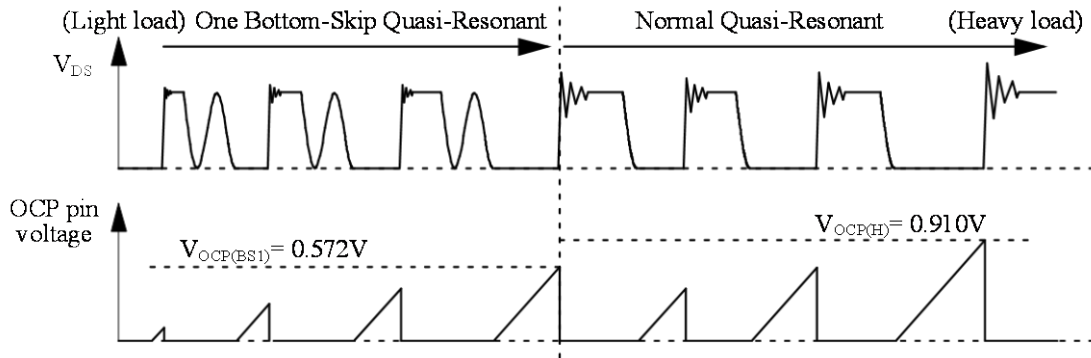
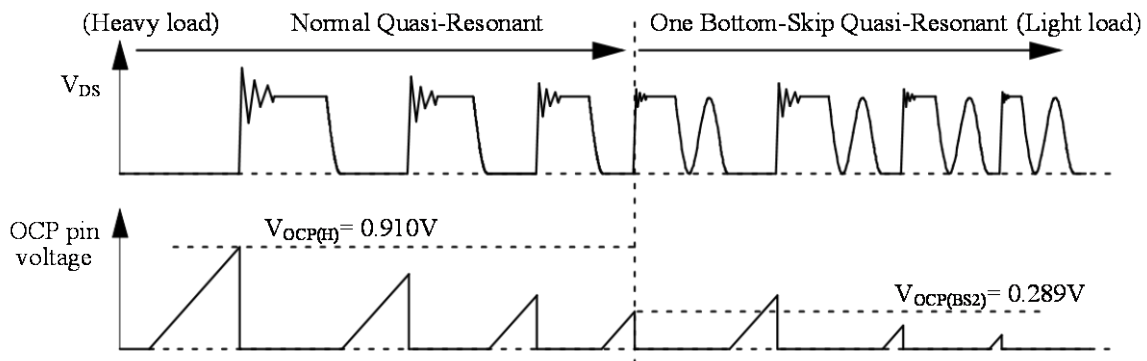

Figure 8-17. Operation State Transition Diagram from Light Load to Heavy Load Conditions
Figure 8-18. Operation State Transition Diagram from Heavy Load to Light Load Conditions
Figure 8-17 shows the operation state transition diagram of the output load from light load to heavy load. Figure 8-18 shows that from heavy load to light load. As these are state change diagrams without input compensation of OCP, the overcurrent detection threshold voltage shows just a $V_{OCP(H)} = 0.910V$.
- The mode is changed from one bottom-skip quasi-resonant operation to normal quasi-resonant operation (Figure 8-17), when load is increased from one bottom-skip operation, the MOSFET peak drain current value increases, the on-time widens, and thus the peak value of the OCP pin voltage increases. When the load is increased further and the OCP pin voltage increases to $V_{OCP(BS1)}$, the mode is changed to normal quasi-resonant operation.
- The mode is changed from normal quasi-resonant operation to one bottom-skip quasi-resonant operation (Figure 8-18), when load is reduced from normal quasi-resonant operation, the MOSFET peak drain current value decreases, the on-time shortens, and thus the peak value of the OCP pin voltage decreases. When the load is reduced further and the OCP pin voltage decreases to $V_{OCP(BS2)}$, the mode is changed to one bottom-skip quasi-resonant operation. This suppresses the rise of the operation frequency.